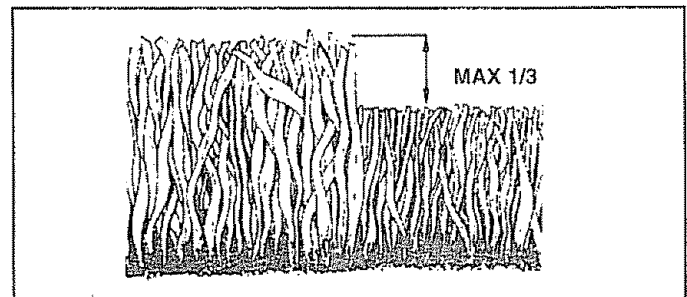

FIG. 9
- For best results, adjust the lawn mower cutting height so that the lawn mower cuts off only the top one-third of the grass blades (See Fig 9). If the lawn is overgrown it will be necessary to raise the height of cut to reduce pushing effort and to keep from overloading the engine and leaving clumps of mulched grass. For extremely heavy mulching, reduce your width of cut, mow slowly and raise the rear of the lawn mower one wheel adjuster setting higher than the front.